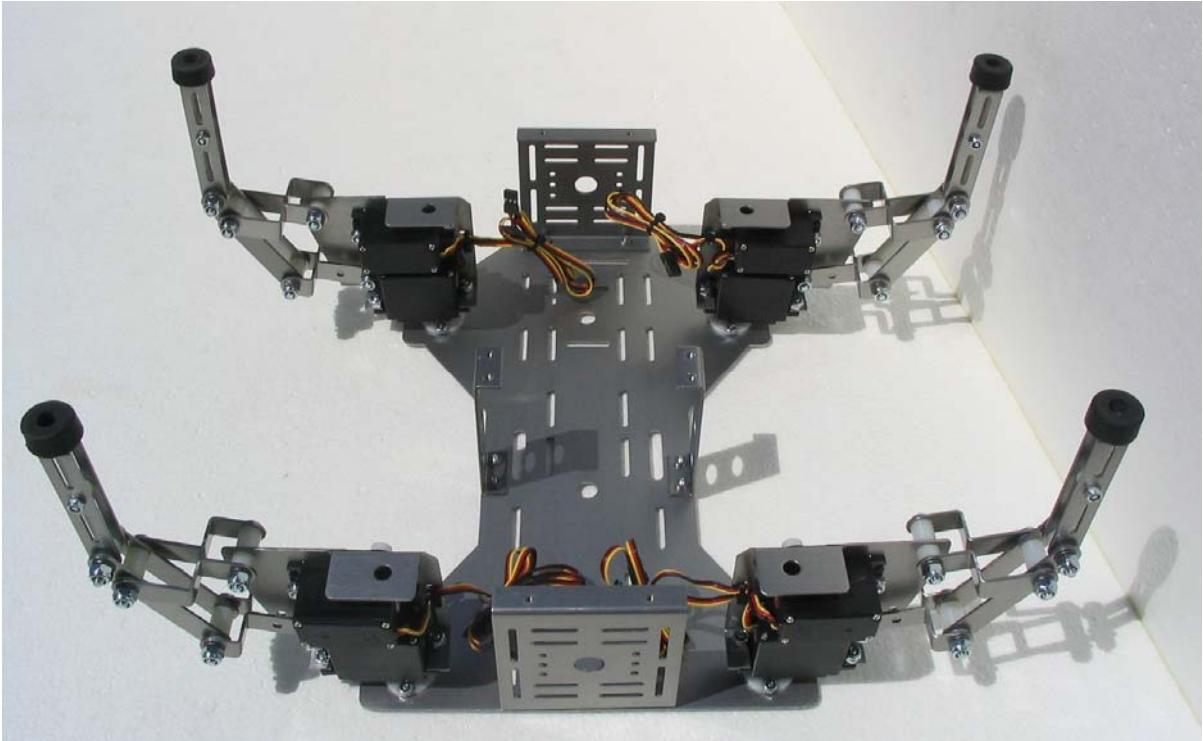

Figure 35: Completed Upper Deck Assembly
6. Repeat steps 3 through 5 for the remaining (5) legs in your kit. Once all of the legs have been installed, your QuadCrawler should appear like Figure 35.